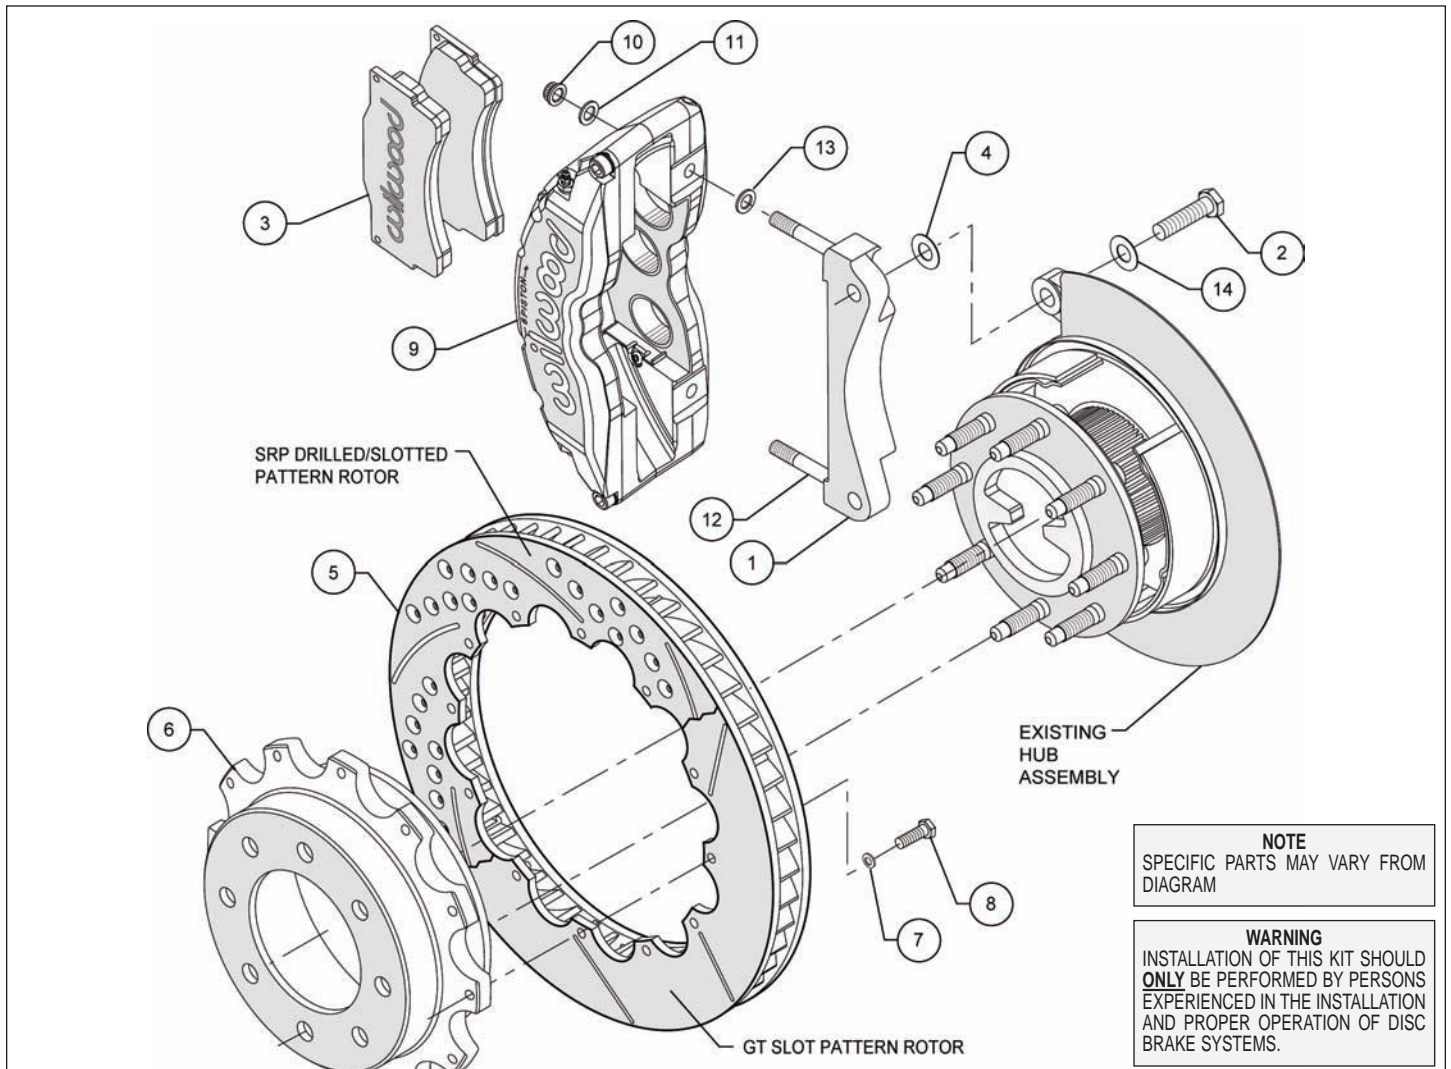
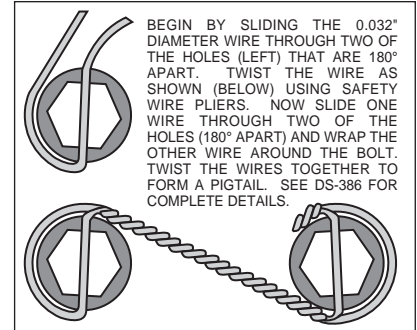

Figure 1. Typical Installation Configuration
Figure 3. Safety Wire Diagram
- The caliper mount bracket assembly (1) should be installed first with clean, dry threads on the mounting bolts (2). Install the bracket by sliding bolt (2) through washer (14) from the rear side of the hub through the OEM caliper mounting bracket ears, then through an additional shim washer (4) and into the bracket (1). The bracket must tighten squarely against the outboard side of the caliper mount bosses on the upright. Inspect for interference from casting irregularities, machining ridges, burrs, etc. Use one shim (4) between the bracket and upright during initial trial fitting. Later, after the caliper, pad, and rotor alignment have been checked, and any necessary shims have been put in place, the mounting bolt threads (2) should be coated with red *Loctite*® 271 and torqued to 95 ft-lbs.
- Attach the rotor (5) to the hat (6) using bolts (8) and washers (7) as shown in Figure 1. Using an alternating sequence, remove bolts one at a time, apply red *Loctite*® 271 to the threads, and torque to 198 **in-lbs**. Safety wire bolts using standard 0.032 inch diameter stainless steel safety wire as shown in Figure 3. Please refer to Wilwood's data sheet DS-386 for complete safety wire installation instructions.
- Lubricate caliper mounting studs and nuts with lightweight oil. Install one shim (13) over each stud (12) on the radial mount bracket (1). Slide the caliper (9) in place over the studs and rotor and install the washers (11) [up to 4 may be required on each side to keep the lock nut from bottoming out on the stud], and lock nut (10) to hold the caliper in place. The caliper bleed screws should be pointing up. Snug the lock nuts (10) and check that the rotor (5) is centered in the caliper (9). Add or subtract .029" shims (4) as necessary between the caliper mount bracket and the caliper mount bosses on the upright assembly to center the caliper.
- Remove the two caliper center bridge pad retainer bolts, nuts, and tubes from the caliper. Slide the brake pads (3) into place. They should install easily without interference. Check that the outside radius of the brake pad is aligned with the outside diameter radius of the rotor face. Add or subtract shims (13) between the caliper and mount bracket to gain the proper alignment. Reinstall the two center bridge pad retainer tubes, bolts, and lock nuts. The locknut should be snug without play in the bolt or tube. Be cautious not to over tighten.
- Once all clearances have been checked, remove the wheel, caliper and rotor from the axle flange. Secure the caliper mounting bracket (1) to the axle flange body with bolts (2) while coating the threads with red *Loctite*® 271. Torque the bolts to 75 ft-lbs. Reinstall the rotor and again use several lug nuts to hold it in place. Reinstall the caliper, torque the caliper nuts (10) to 47 ft-lbs.